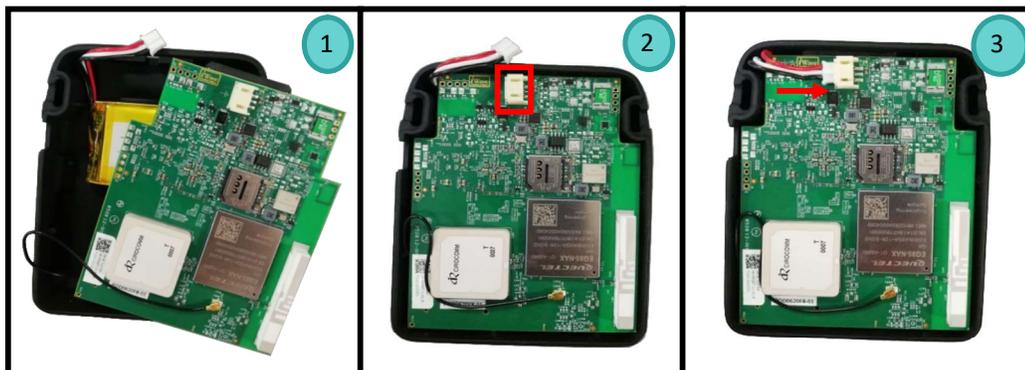

Figure 5 : Procedure to Connect Battery
- Connect the battery in the slot highlighted as in image (3) of Figure 5